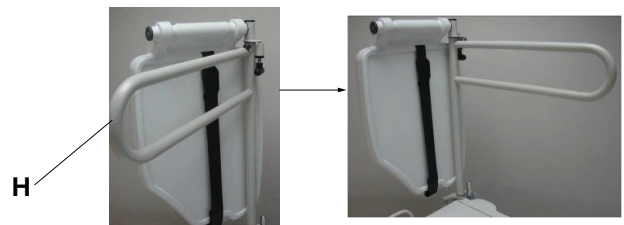

Figure 98: Swinging out the tray support pole
2. Swing the tray support pole out 90° (H) (Figure 98 on page 102).